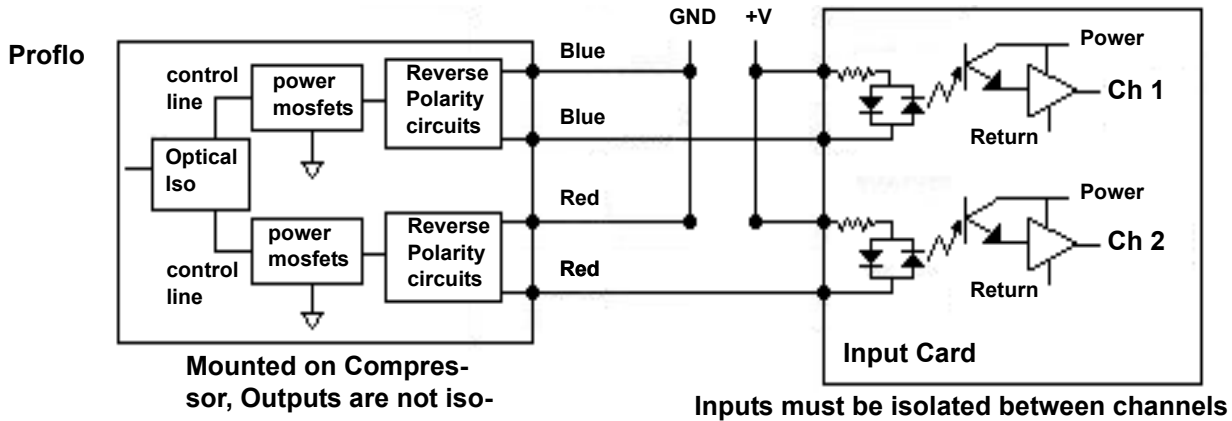

FIGURE 4-17: EXAMPLE DIAGRAM TO READ BOTH PULSE & ALARM CONTACTS
3. The Proflo alarm output, red wires, and the divider block cycle output, blue wires, are not isolated from each other. If it is necessary to read both Proflo outputs, the isolation must take place on the equipment that is reading the contacts. If the PLC input card is not isolated between channels both the alarm and pulse outputs will act as the alarm contact. These contacts must also be isolated from other inputs. See Figure 4-17: